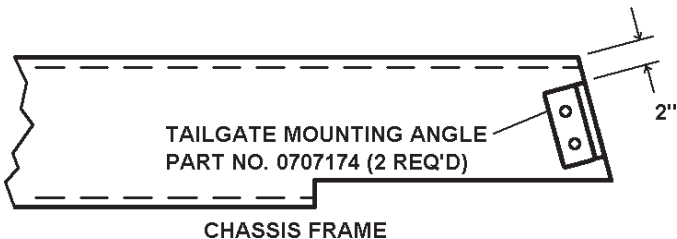

FIGURE 7.5
- (a) Securely clamp tailgate mounting angles to the outside of each chassis frame rail. Make sure the horizontal leg of each angle is facing out. See Figure 7.5.